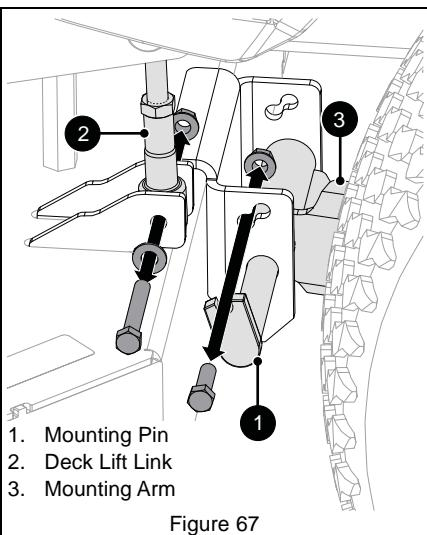

Figure 67
3. Release transport lock and slowly lower deck until it rests on supports. See Figure 67.
See Figure 67.